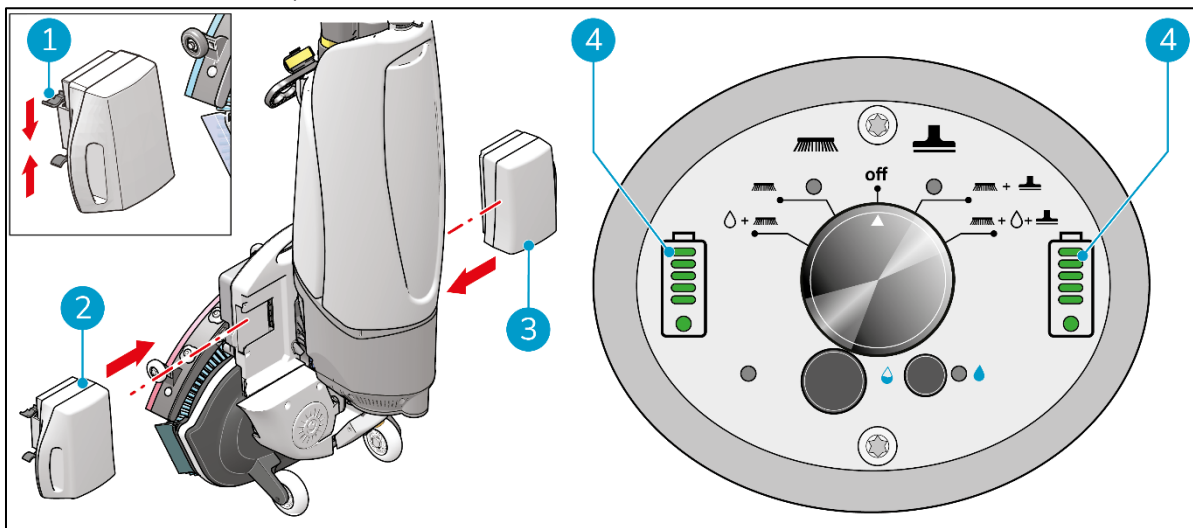

Figure 15
The battery clips (Figure 15, pos 1) are color-coded; blue or grey. The clips correspond with the color-coded battery slots.
1. Push the blue coded battery (Figure 15, pos 3) in the blue battery slot. A click indicates that the battery is locked in place.
2. Push the grey coded battery (Figure 15, pos 2) in the grey battery slot. A click indicates that the battery is locked in place.
3. During operation, the battery indicators (Figure 15, pos 4) on the control panel show the amount of power left.